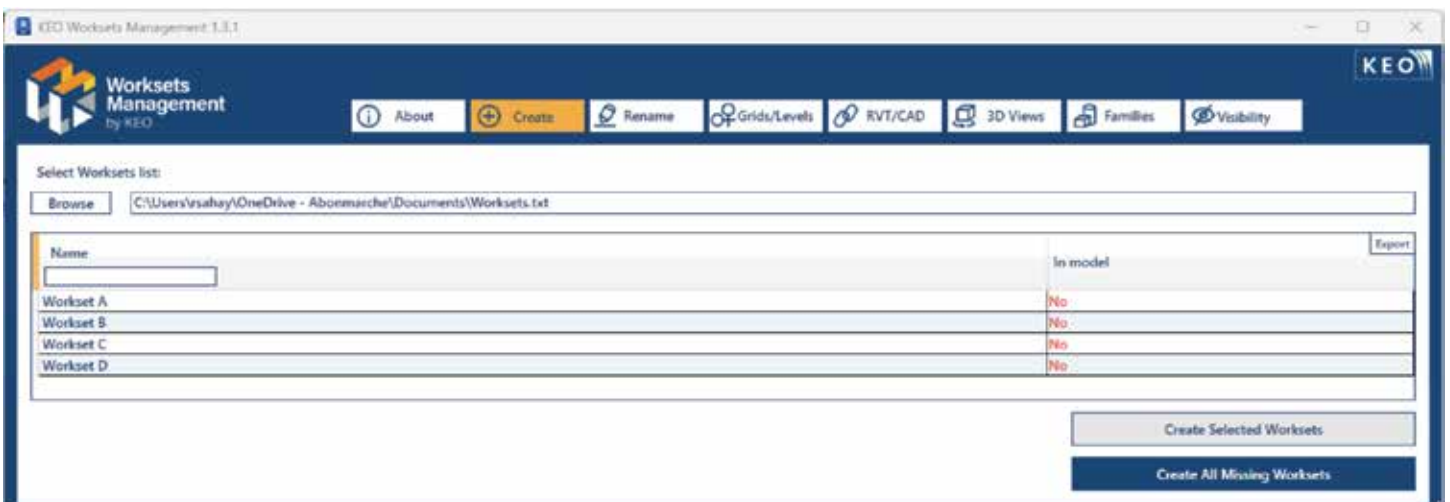

Figure 25
**Create** - I started by browsing to the TXT file where I'd created a list of Workset names. Worksets Management displays the list and prompts to create all or selected Worksets. What a totally nifty tool! Figure 25.